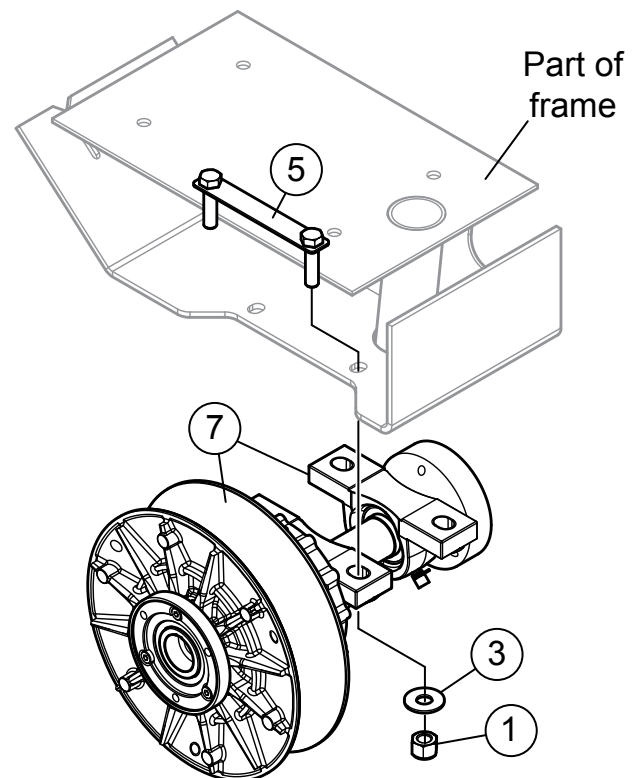

Figure 10. Install Lower Drive Assembly
4. Mount item 7, **new** lower drive assembly, to frame using bearing mount plates (item 5) in two places. Secure with four washers (item 3) and nuts (item 1). See Figure 10.